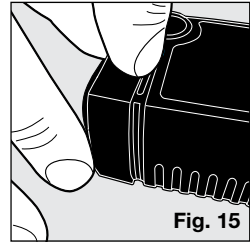

Fig. 15
2. Remove the faceplate by using your thumb and forefinger to gently squeeze on both sides of the faceplate and pull off. It may be necessary to insert a fingernail into the seam of the faceplate to pry it off (**Fig. 15**).